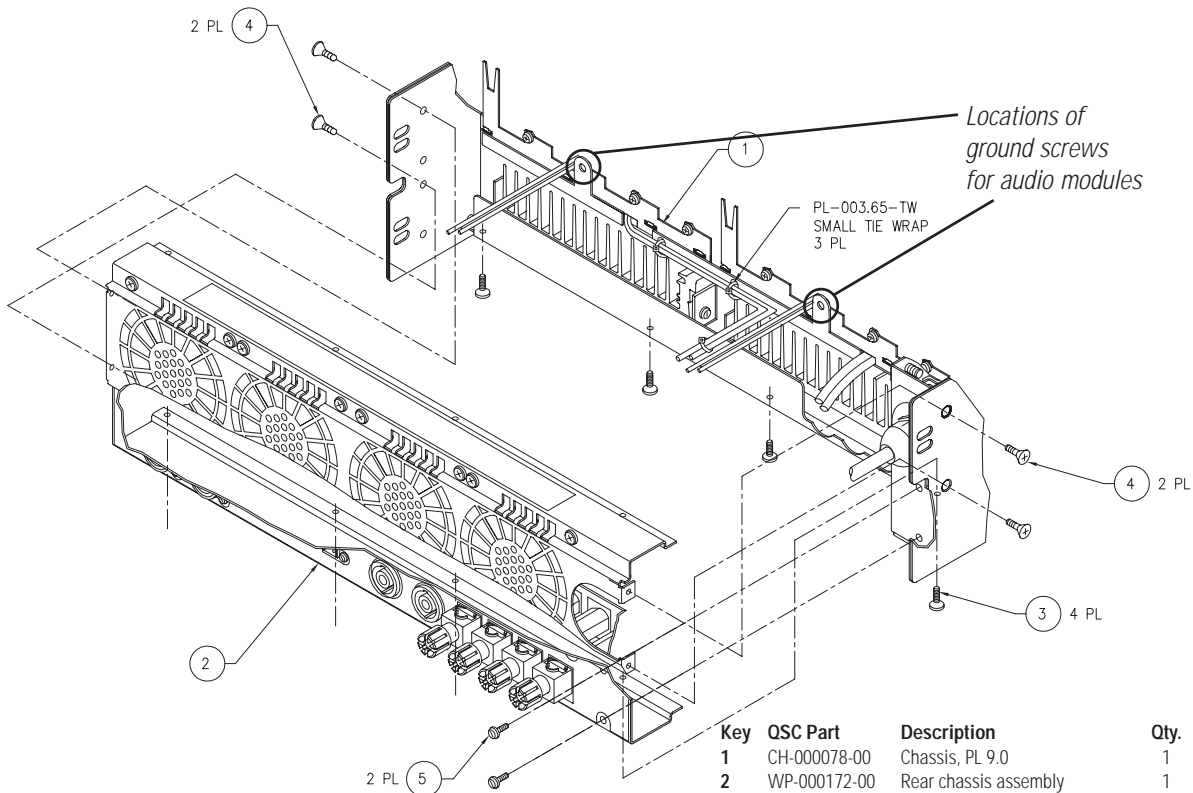

Figure 2.4. Removing or installing the chassis rear panel.
13. Remove the four screws on the rear panel (see Figure 2.4).
22. There is a ground screw at the back of each audio module (see Figure 2.4). Remove it.
10. Insert and tighten the ground screw at the back of each module (see Figure 2.4).